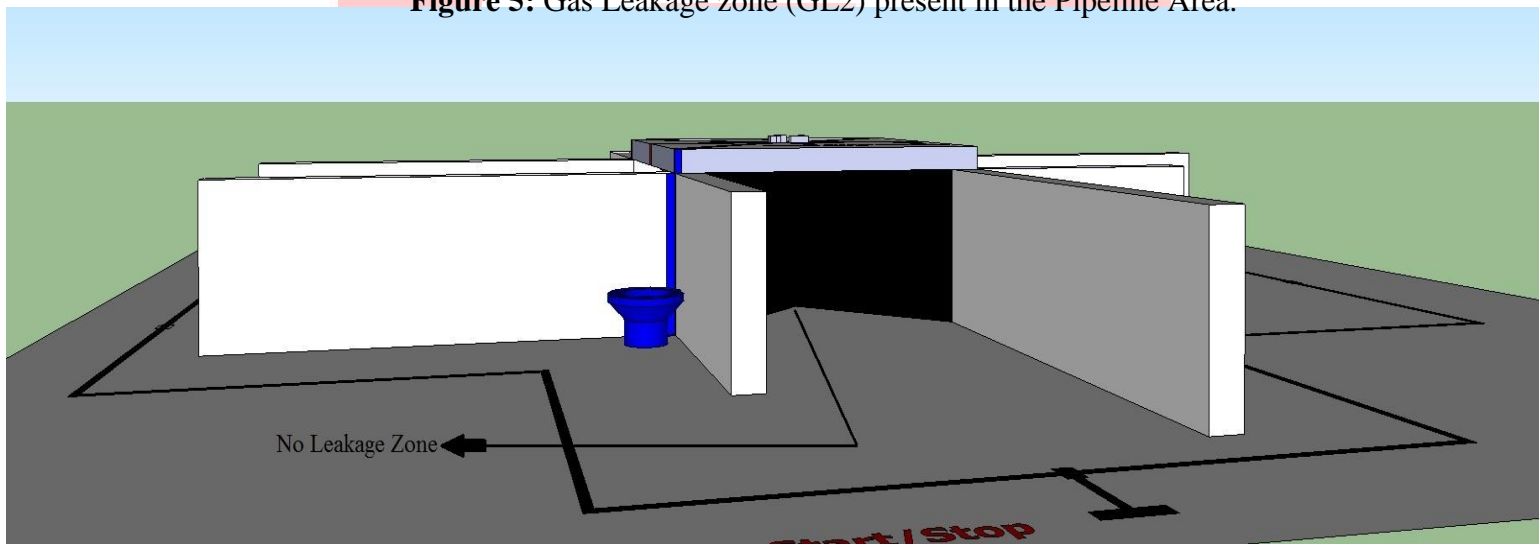

Figure 6: Black color depicting “No leakage Zone”
- **No Leakage Zone:** The inner end of the Pipeline Area where there is no Gas Leakage is called **No Leakage Zone**. Figure 6 represents one such Pipeline Area where “**No Leakage Zone**” is present. How to prepare and place the No Leakage Zone is discussed below.